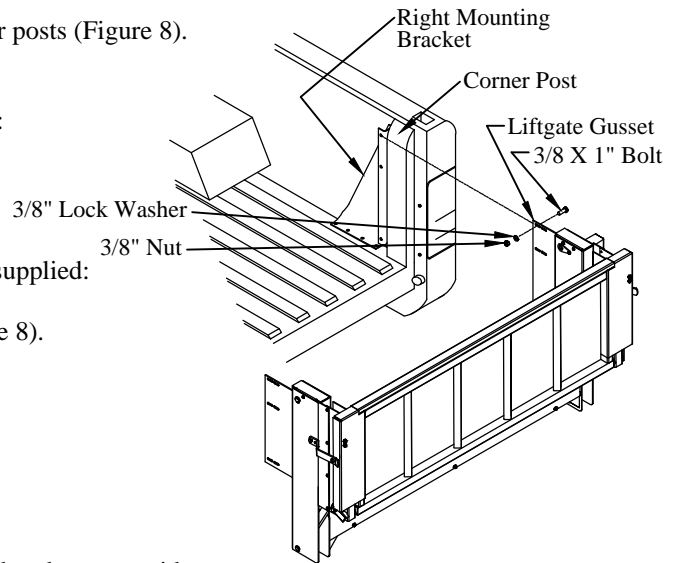

Figure 8: Mounting bracket and liftgate.
1. Position the mounting brackets into the truck bed in front of the corner posts (Figure 8).
- (3) 3/8"x1" hex head bolts on the bracket-side (Figure 8).
- (3) 3/8" lock washers, and (3) 3/8" nuts on the gusset-side (Figure 8).
7. Drill two (2) 3/8" holes into the truck bed floor using two holes in the bracket as a guide.